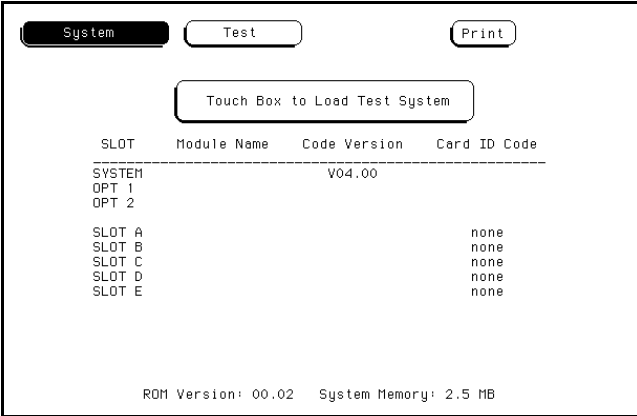

Figure 4-3. Loading the Test System
- 3. Verify that test files are on an installed disk. Touch the field close to the center of the screen to load the Test System. See figure 4-3.